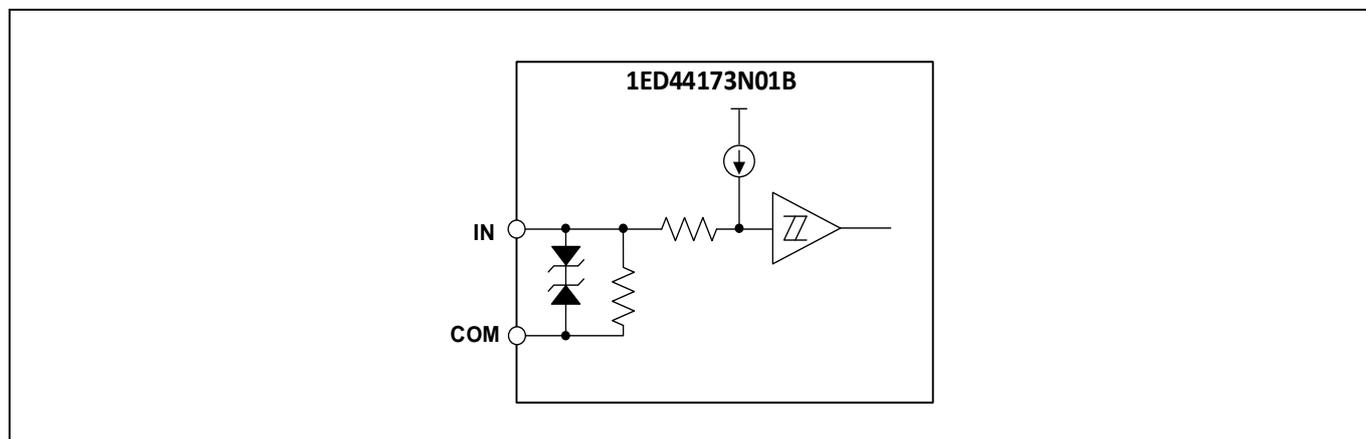

**Figure 3 Recommended microcontroller I/O interface circuit**
- To prevent signal oscillations, an RC coupling is recommended as illustrated in Figure 3.
Figure 3 shows the I/O interface circuit between a microcontroller ( $\mu\text{C}$ ) or digital signal processing (DSP) unit and the 1ED44173N01B. The 1ED44173N01B input logic is active-high. The EN/ $\overline{\text{FLT}}$  output is an open-drain configuration. This signal should be pulled up to high by an external logic power supply with a pull-up resistor. RC (1 k $\Omega$  / 100 pF) is recommended for the input pin to prevent input noise.
As shown in Figure 4, the 1ED44173N01B input signal section integrates a pull-down resistor. Therefore, when using an external filtering resistor between the microcontroller output and 1ED44173N01B input, pay attention to the signal voltage drop at the 1ED44173N01B input terminal. It should fulfill the logic "1" input voltage requirement. For instance,  $R = 1$  k $\Omega$  and  $C = 100$  pF are recommended for the parts shown in Figure 3.